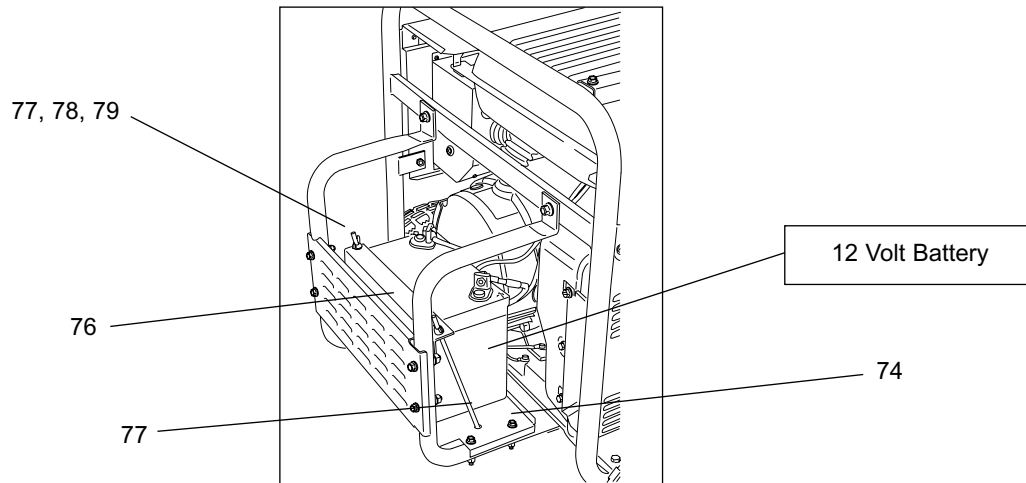

Figure 21: Battery Enclosure Components
- (1) Refer to Figure 21 or 22. Remove two wing nuts (79) and clips (78). Remove hold-down plate (76) and two tie-down rods (77) from battery base plate (74).
- (2) Remove terminal fasteners from battery terminals.
- (3) Remove battery from battery enclosure.
- (4) Put replacement battery in battery enclosure.
- (5) Place hold-down plate (76) on battery, being careful not to contact the battery terminals.
- (6) Insert L-shaped ends of tie-down rods (77) in holes in plate (74) in base of battery enclosure unit.
- (7) Put threaded ends of tie-down rods (77) in holes in hold-down plate (76). Install clips (78) and wing nuts (79) on threaded rods to secure battery.
- (8) Connect cables to terminals on the battery.
- (9) Operate generator to verify that the battery is properly connected.